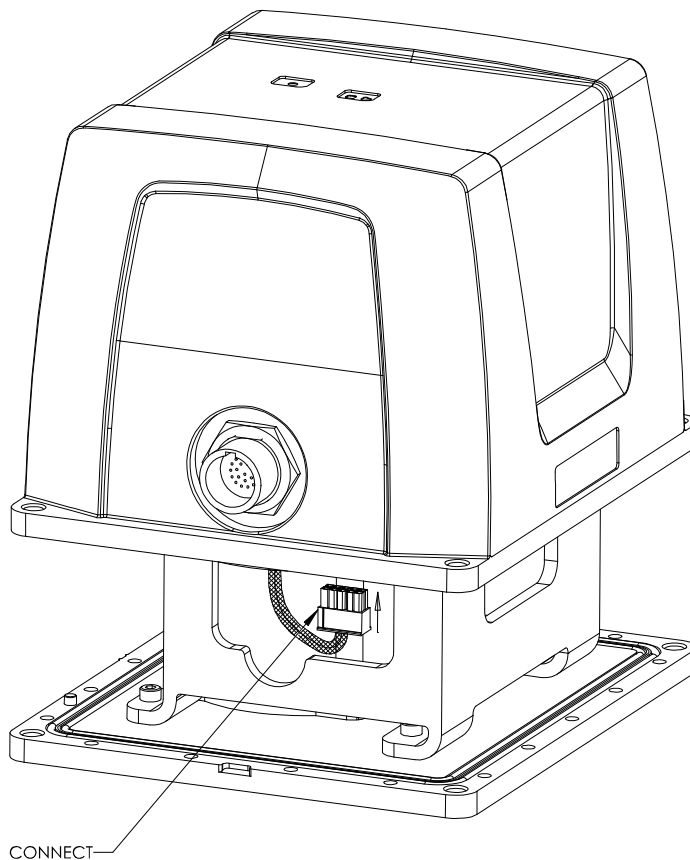

Figure 71: Connect Internal Cable Harness
4. While carefully holding the body over the bracket, connect the internal cable harness to the board assembly, as shown in *Figure 71*.